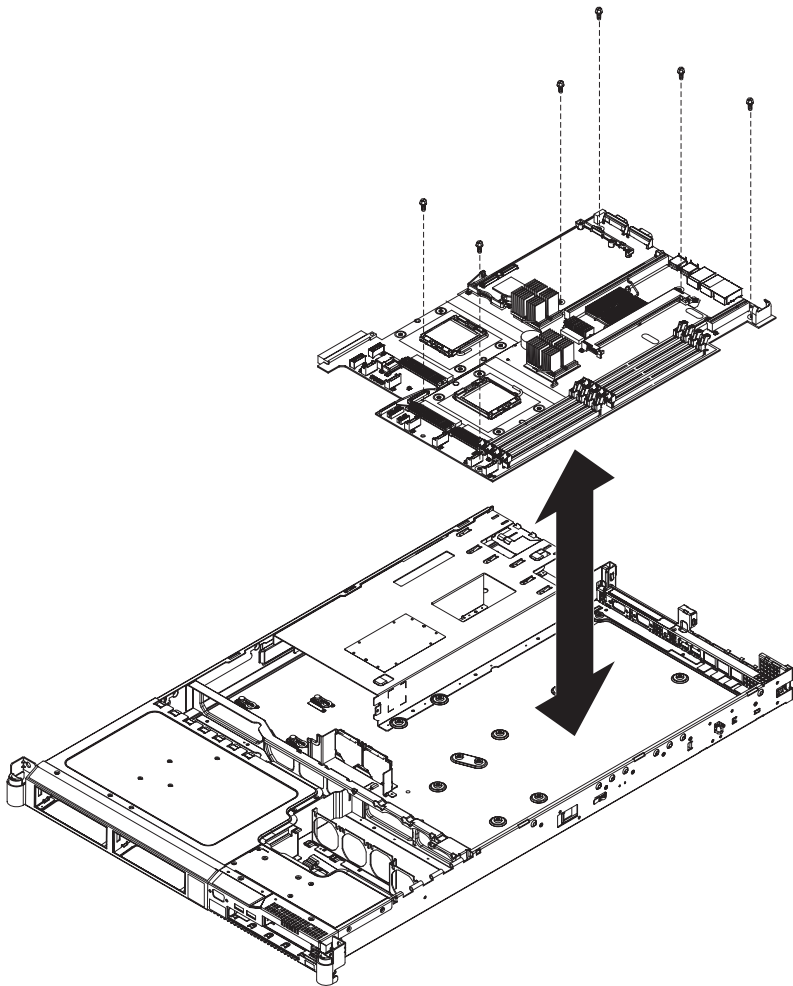

Figure 278. The placement of the screws that secure the SAN Volume Controller 2145-8G4 system board
19. Remove the six screws on the system board, as shown in Figure 278, that secure the system board to the chassis.